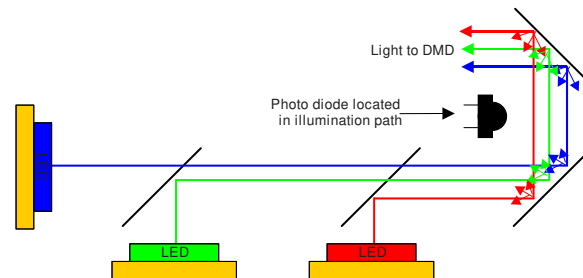

Figure 8-2. Photodiode Placement
- Ideally, a position in the illumination path (Figure 8-2) should be located that produces strong, but also balanced amplitude signal responses from each of the three LEDs at the system's target white point. Imbalance between the three channels due to non-ideal placement of the detector will limit dynamic range of the dimming system. The TIA supports an RGB trim function to help re-balance an imbalanced system.